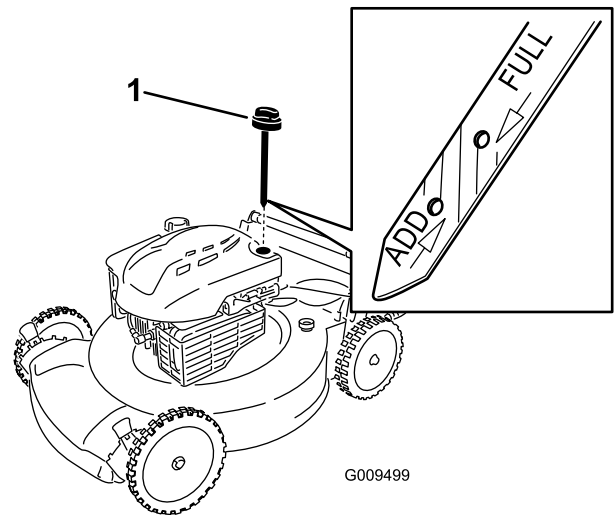

Figure 9
1. Remove the dipstick, wipe it clean, and fully install the dipstick (Figure 9).
2. Remove the dipstick and check the oil level (Figure 9). If the oil level is below the **Add** mark on the dipstick, **slowly** pour oil into the oil fill tube to raise the oil level to the **Full** mark on the dipstick. Wait 3 minutes after adding oil to check the oil level with the dipstick. **Do not overfill.** (Max. fill: 20 oz. (0.59 l), type: SAE 30 detergent oil with an API service classification of SF, SG, SH, SJ, SL, or higher.)